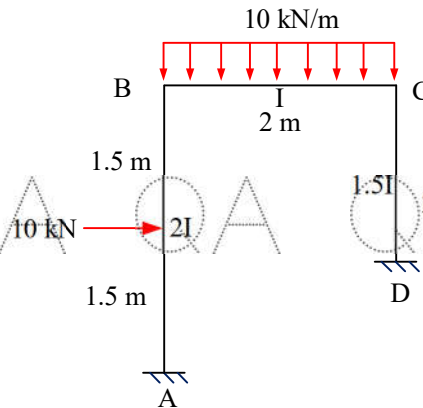

Figure 4
4. Analyse the frame shown in figure 4 using slope deflection method. Draw BMD.